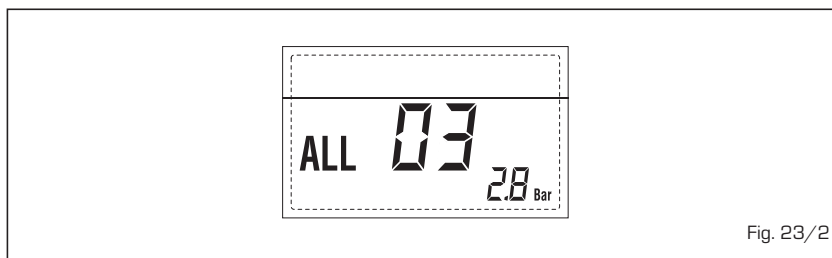

Fig. 23/2
– **ANOMALÍA SONTA SANITARIO “ALL 04” (fig. 23/3)**